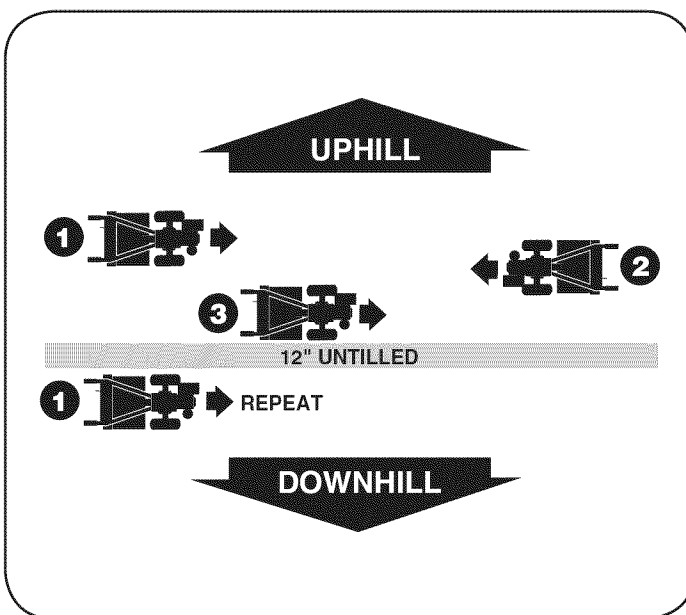

Figure 16
1. To create a terrace, start at the top of the slope and work down Go back and forth across the first row. See Figure 16.